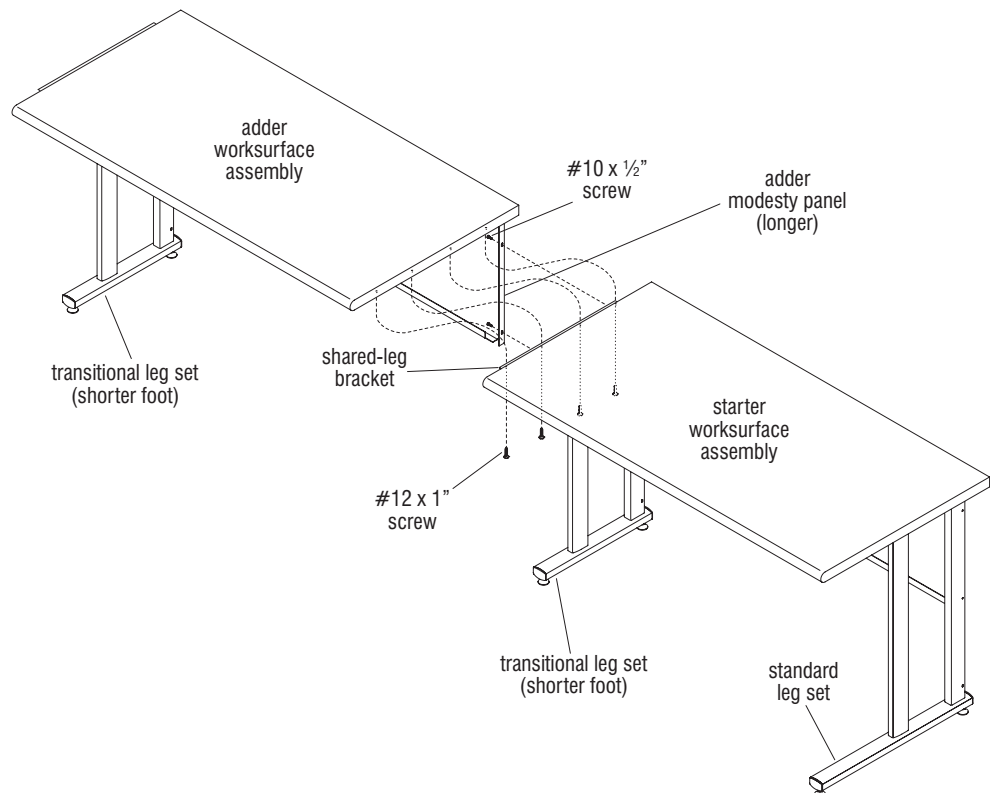

Figure 4 - Adder to Starter Assembly
10. Carefully turn the starter worksurface assembly to the upright position. With care, turn the adder worksurface assembly upright, next to the starter unit and set the no-leg end of the adder surface onto the shared-leg bracket of the starter worksurface assembly (Figure 4).
11. Twist in four #12 x 1" screws through the shared-leg bracket of the starter worksurface, and into the pre-drilled mounting holes at the underside of the adder worksurface as illustrated. Do not tighten screws completely at this time (Figure 4).
12. Twist in two #10 x 1/2" screws through the side of the adder modesty panel and into the leg of the starter worksurface, but do not tighten screws at this time (Figure 4).